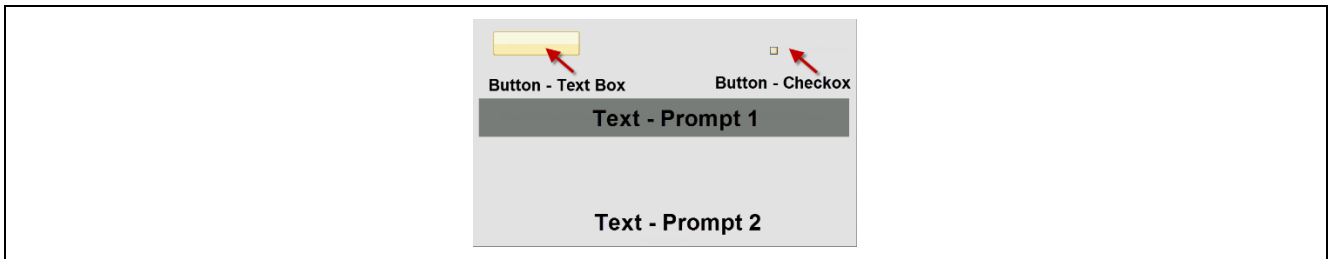

Figure 102. Window1
- A. Figure 102 shows **window1**. In this window are four elements: